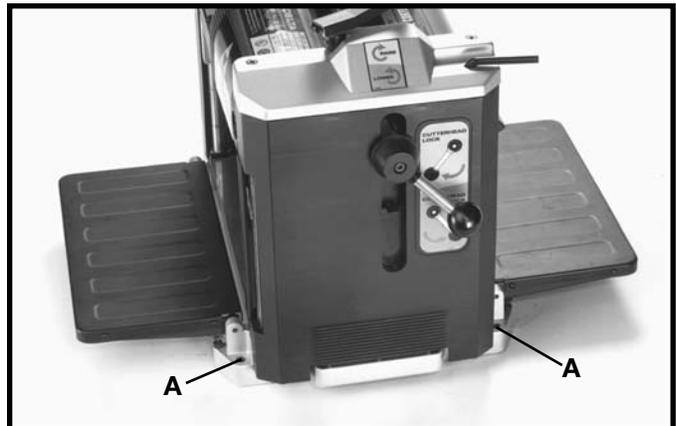

Fig. 10
If during operation there is any tendency for the planer to tip over, slide, or walk on the supporting surface, the planer must be secured to the supporting surface using the four holes in the base of the machine, two of which are shown at (A) Fig. 10. Only operate planer on a flat level surface.
If assembled to the stand, place the planer on the stand and align the four holes in the base of the machine, two of which are shown at (A) Fig. 10, with the four holes in the top of the stand. Place the hex head flange bolt through the holes in the planer and the stand, and thread the flange nut onto the hex head flange bolt and tighten securely. Only operate planer, attached to stand, on a flat level surface.